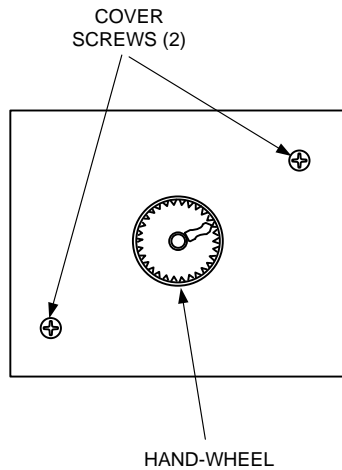

Figure 8-22. Control Valve Electronics Module Cover – Top View
2. Loosen the two (2) captive screws securing the Electronics Module cover (Figure 8-22).